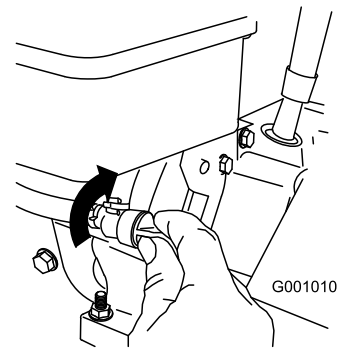

Figure 31
3. Close the fuel shutoff valve by rotating it clockwise (Figure 31).